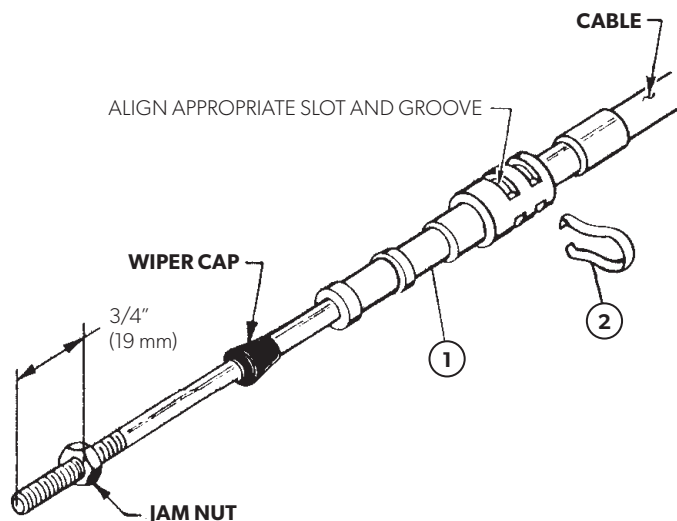

Figure 2.
2. Consult motor manufacturer's manual to determine requirements for cable travel dimensions. Slide one adapter (item 1) over engine end of each cable until slot in adapter is aligned with groove in cable end fitting, as shown in figure 2.